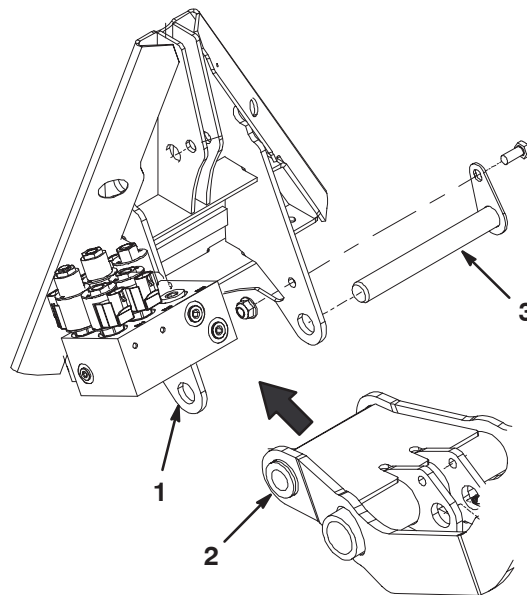

Figure 7
9. Mount the lift adapter to the rear lift arm with a pivot pin (Fig. 7). Secure the pivot pin to the lift adapter with a screw (3/8 x 7/8 inch) and flange nut (3/8 inch).